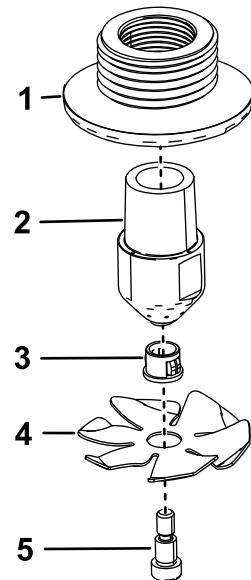

Figure 4
1. Assemble the 2 rinse nozzles as shown in Figure 4.